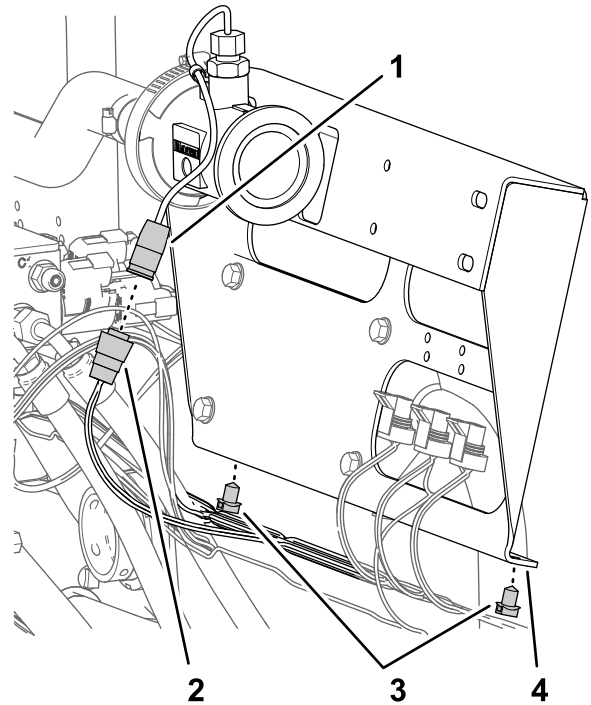

Figure 70
1. Disconnect the 3-socket connector of the machine wire harness labeled FLOW METER from the 3-pin connector of the flow meter (Figure 70).
2. Remove the 2 push-in fasteners of the machine wiring harness from the bottom flange of the section-valve bracket (Figure 70).